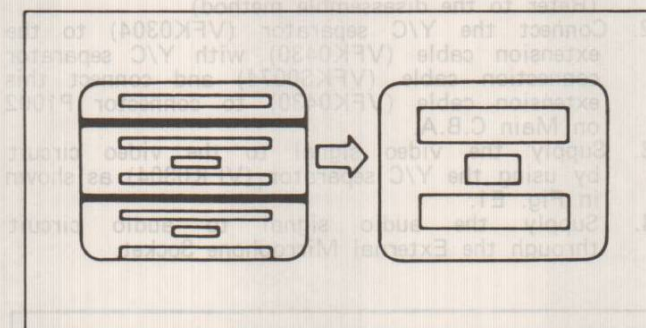

Fig.C41
- Adjust the Vertical Size (VR901) so the Vertical Size is correct and the picture does not roll as shown in Fig. C41.